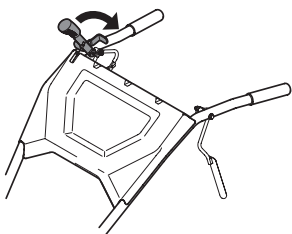

Figure 17
- b. Lift the handlebars until the tines are slightly off the ground and then pull the Reverse Control Knob out to engage the reverse motion. See Figure 17.